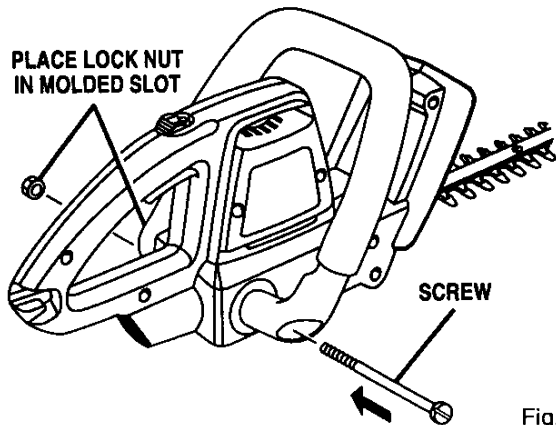

Fig. 2
- Place your trimmer on a workbench and insert lock nut into molded slot on left side of front handle. See Figure 2.
- Insert screw from right to left through the front handle and motor housing. See the arrow shown in Figure 2.